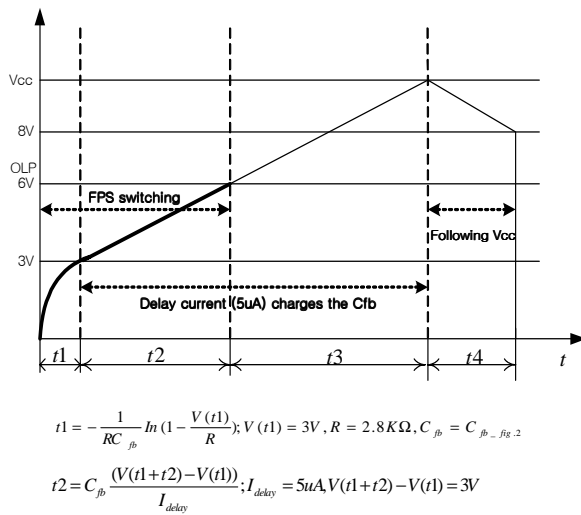

Figure 6. Over load protection
4.1 Over Load Protection (OLP) : Overload is defined as the load current exceeding a pre-set level due to an unexpected event. In this situation, the protection circuit should be activated in order to protect the SMPS. However, even when the SMPS is in the normal operation, the over load protection circuit can be activated during the load transition. In order to avoid this undesired operation, the over load protection circuit is designed to be activated after a specified time to determine whether it is a transient situation or an overload situation. In conjunction with the Ipk current limit pin (if used) the current mode feedback path would limit the current in the Sense FET when the maximum PWM duty cycle is attained. If the output consumes more than this maximum power, the output voltage (Vo) decreases below the set voltage. This reduces the current through the opto-coupler LED, which also reduces the opto-coupler transistor current, thus increasing the feedback voltage (Vfb). If Vfb exceeds 3V, the feedback input diode is blocked and the 5uA Idelay current source starts to charge Cfb slowly up to Vcc. In this condition, Vfb continues increasing until it reaches 6V, when the switching operation is terminated as shown in figure 6. The delay time for shutdown is the time required to charge Cfb from 3V to 6V with 5uA.